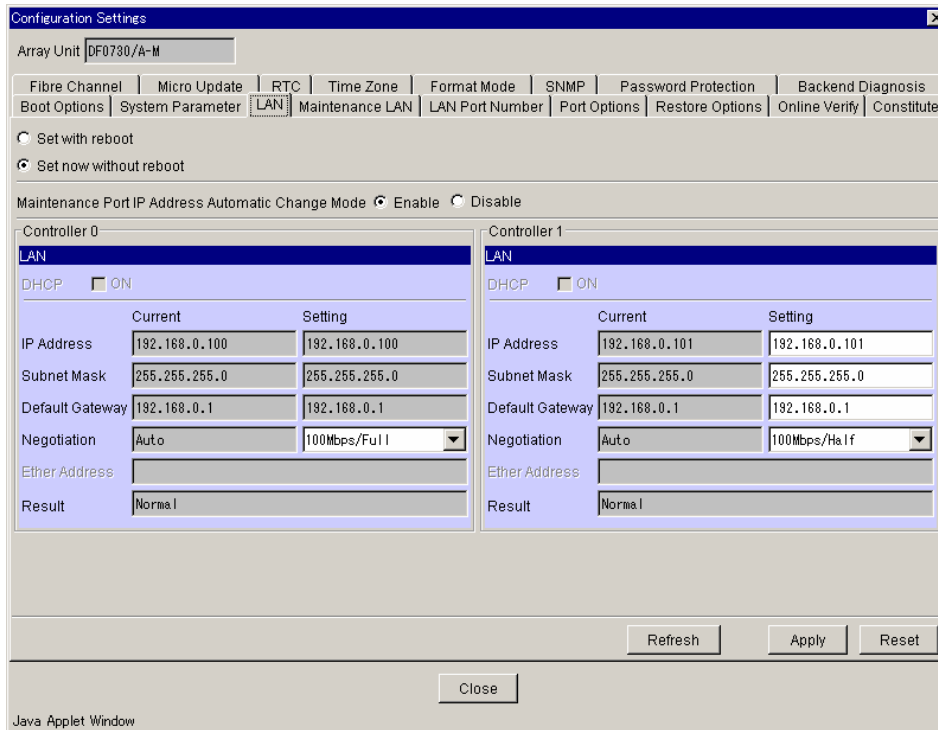

Figure 9.11 Configuration Settings - LAN panel
3. Select **Set now without reboot**. See Figure 9.11.